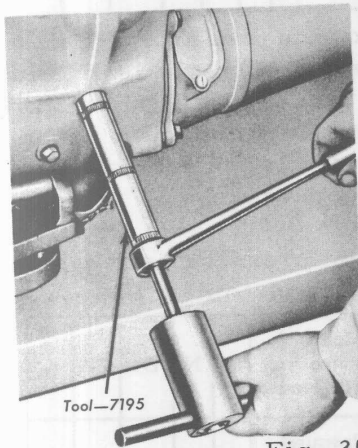

Fig. 35
- ☒ Use the special adjusting tool and tighten the adjusting screw until the ratchet overruns (Fig. 35). Back off the adjusting screw 1-1/2 turns.